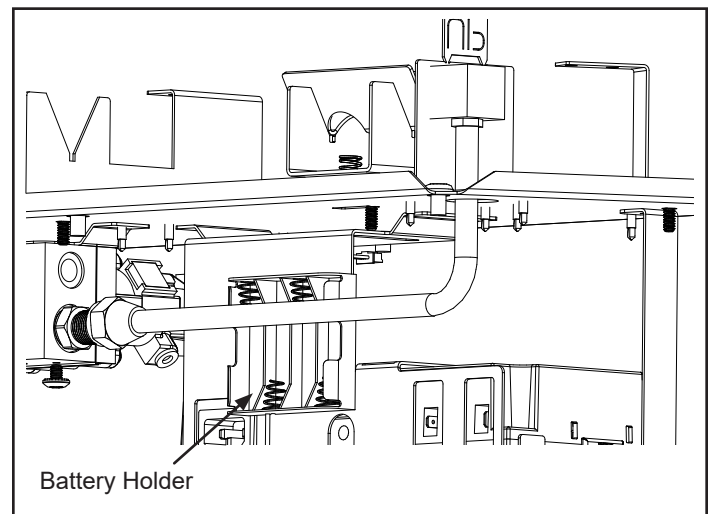
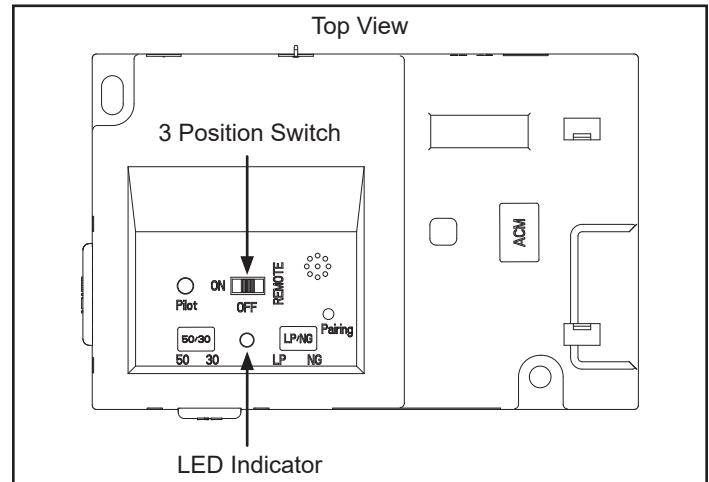

Figure 4.4 - Battery Holder
Figure 4.5 - IFT-ECM
2. Locate the battery tray (located on the back of the ECM bracket) and insert four AA cell batteries, Figure 4.4. Battery polarity must be correct or module damage will occur, Figure 4.5. A complete wiring diagram is included in the Electrical section of the appliance Installation Manual.
1. The Electronic Control Module (IFT-ECM) has a three-position ON/OFF/REMOTE selector switch that must be set for proper operation, Figure 4.5. When changing switch positions, it is important to pause in each position for 1-2 seconds.